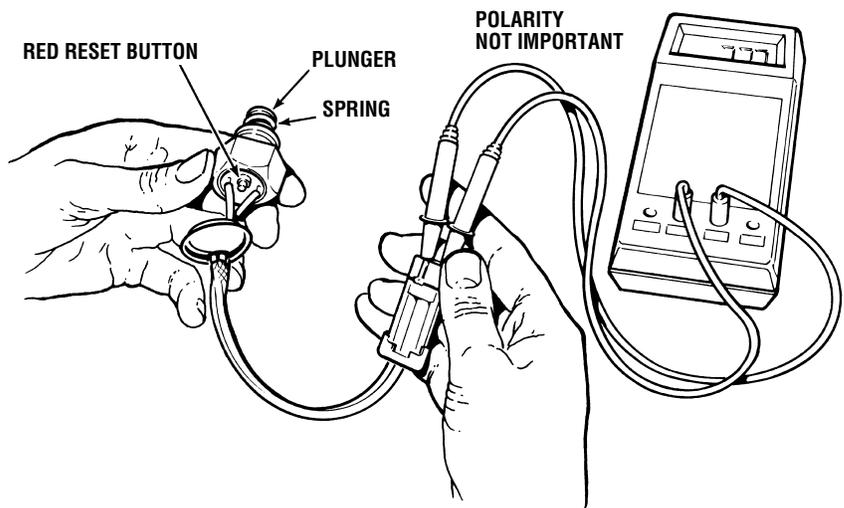

Figure 4-29. Overheat Sensor Test
1. Connect a multimeter (adjusted to measure resistance) to the overheat breaker connector. (Figure 4-29.)